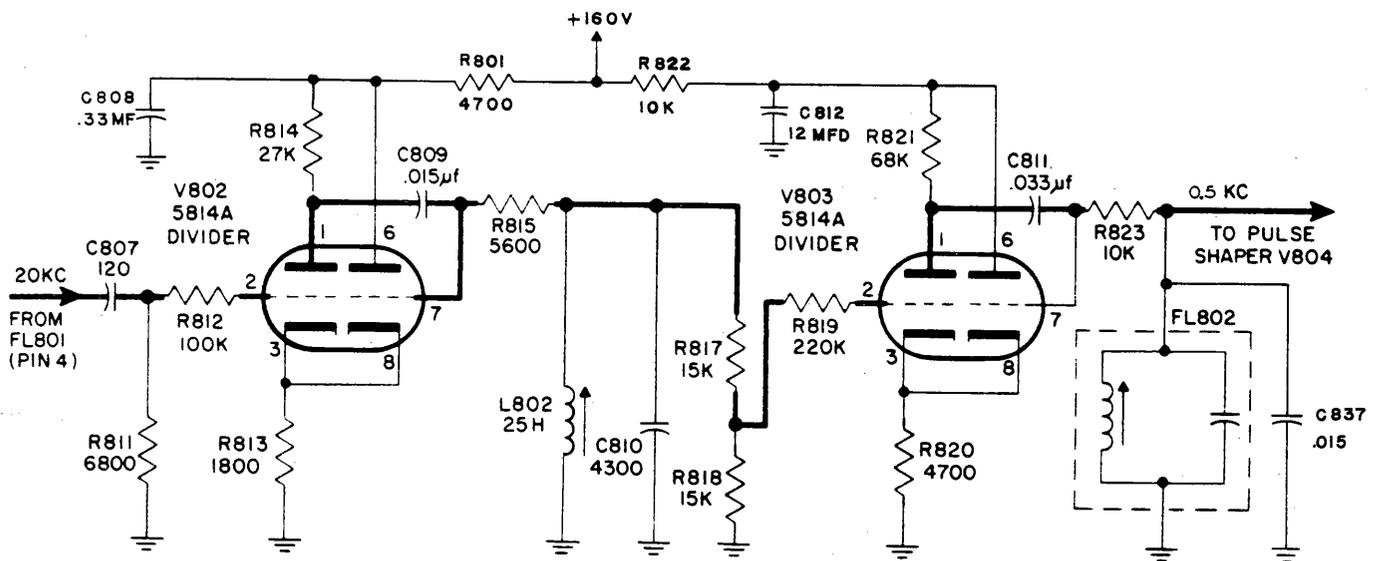

Figure 4-47. Dividers V802 and V803, Simplified Schematic Diagram
c. DIVIDERS V802 and V803. (See figure 4-47.)—Frequency dividers V802 and V803 are locked oscillators which divide the 20 kc signal from the harmonic generator and filter FL801 by four (V802) and then by ten (V803) to 0.5 kc, which is applied to pulse shaper V804 for use as an accurately controlled trigger signal.